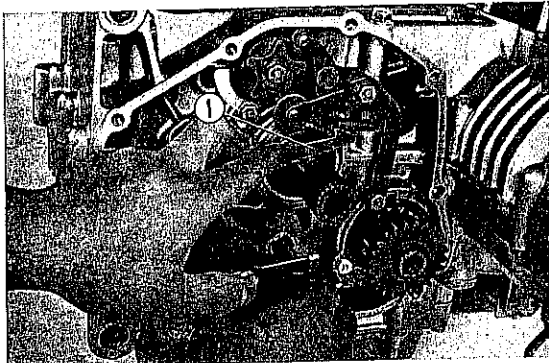

Fig. 262 ① Gearshift arm
3. While holding the gearshift arm down as shown in Fig. 262, pull the gearshift spindle out.